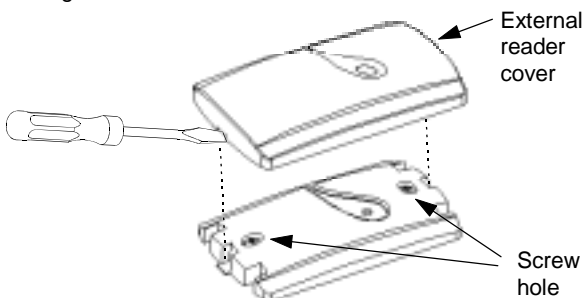

Figure 3 - Separating the External Reader Cover
A. Insert a screwdriver, into the recess at the bottom or top of the case (see figure 3), and separate the cover from the reader.
NOTE: Make sure that the cover is aligned with the reader, as shown in figure 3, to enable the LED to be visible.